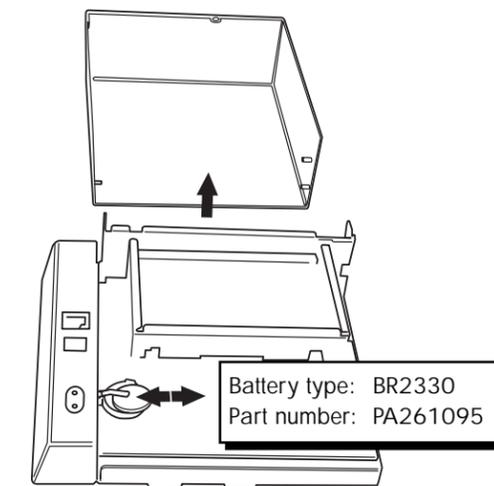

Figure 1.3
- 4 With the unit lying on its back, lift/rotate the cover to remove it (figure 1.3).